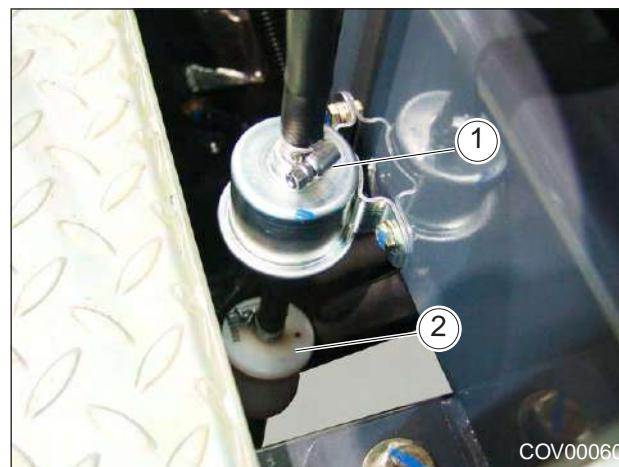

Figure 9.21 - In Line Fuel Filter
Refer to Figure 9.21. The in line fuel filter (2) is located below the electric fuel pump (1). is not a serviceable item and must be replaced. It is not possible to dismantle and clean the filter.